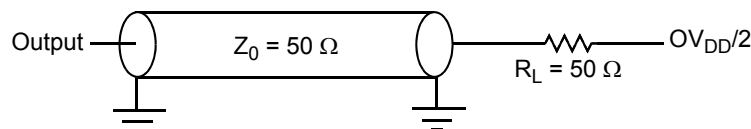

Figure 39. AC Test Load for the JTAG Interface
1. All outputs are measured from the midpoint voltage of the falling/rising edge of t_{TCLK} to the midpoint of the signal in question. The output timings are measured at the pins. All output timings assume a purely resistive 50- Ω load (see Figure 39). Time-of-flight delays must be added for trace lengths, vias, and connectors in the system.
2. The symbols used for timing specifications follow the pattern of $t_{(first\ two\ letters\ of\ functional\ block)(signal)(state)(reference)(state)}$ for inputs and $t_{(first\ two\ letters\ of\ functional\ block)(reference)(state)(signal)(state)}$ for outputs. For example, t_{JTDVXH} symbolizes JTAG device timing (JT) with respect to the time data input signals (D) reaching the valid state (V) relative to the t_{JTG} clock reference (K) going to the high (H) state or setup time. Also, t_{JTDVXH} symbolizes JTAG timing (JT) with respect to the time data input signals (D) went invalid (X) relative to the t_{JTG} clock reference (K) going to the high (H) state. Note that, in general, the clock reference symbol representation is based on three letters representing the clock of a particular functional. For rise and fall times, the latter convention is used with the appropriate letter: R (rise) or F (fall).